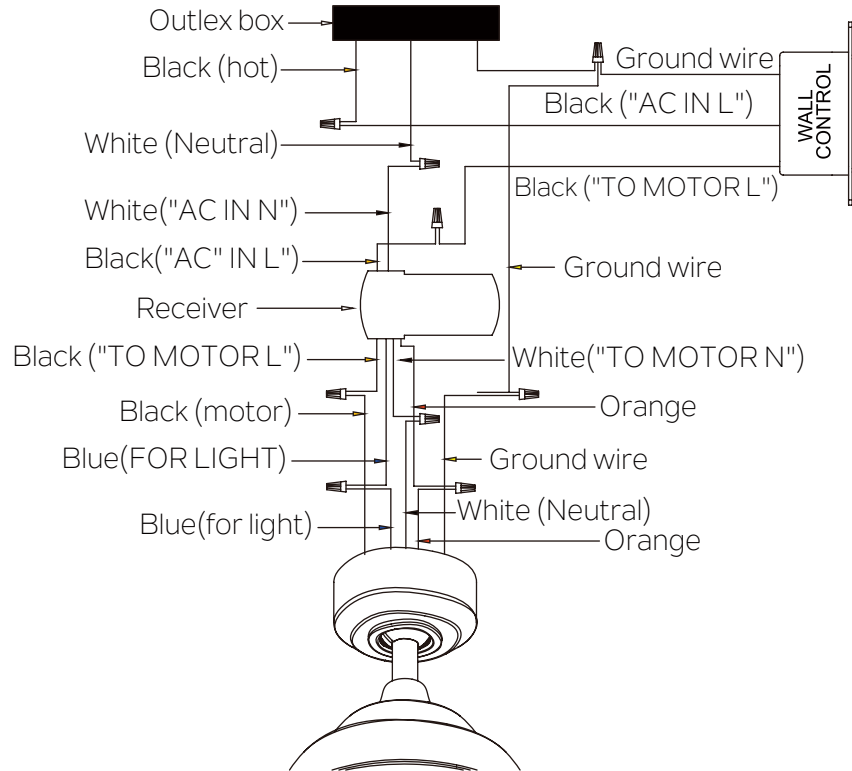

Fig. 16
Secure all the wire connections with the plastic wire nuts provided. (Fig. 16)
Secure the wire connections with the plastic wire connectors provided. (Fig. 16)
Step 4. Connect GROUND (GREEN) wires from hanger ball and mounting bracket, so GROUND (GREEN or BARE COPPER) from house. Secure the wire connection with a plastic connectors provided. After connecting the wires, spread them apart so that the green and white wires are on one side of the outlet box and black and blue wires are on the other side. (Fig. 16)